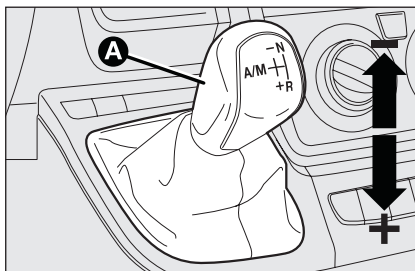
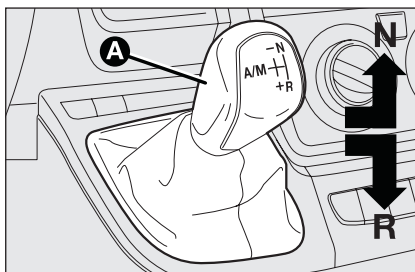
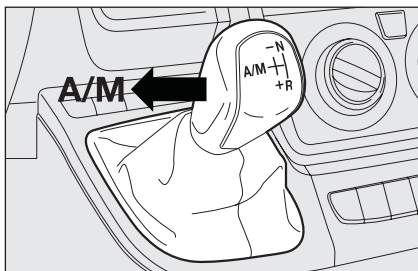

fig. 1
fig. 2
fig. 3
The gearbox consists of a conventional manual transmission equipped with a lever **A-fig. 1**, to which has been added an electronically-controlled hydraulic device that controls the clutch and gear shifts automatically.
- ☐ Push the gear lever towards **+** (shift up) **fig. 1** to engage first gear (if starting from **N** or **R** simply move the lever to the central position) or **R fig. 2** to engage reverse.
- ☐ When driving, push the gear lever towards **(+)** **fig. 1** to engage a higher gear or towards **(-)** **fig. 1** to engage a lower gear.
- ☐ Push the gear lever to **A/M** **fig. 3**, to engage automatic mode **+** (higher gear) **fig. 1** to engage the first gear, if starting from **N** or **R** move the lever to central position **R** **fig. 2** to engage reverse.
Control lever **A-fig. 1**, on the central tunnel is a floating multistable lever, i.e. it can take up three stable positions and three unstable positions.
The three stable positions correspond to neutral **N-fig. 2**, reverse **R-fig. 2** and the central position between the unstable positions **(-) and (+) fig. 1**.
The unstable positions, i.e. positions left by the lever as soon as it is released, are upshift request **(+)**, downshift request **(-)** and automatic mode request **(A/M) fig. 3**.
☐ shift the lever to **(+)** position **fig. 1** to engage a higher gear;
☐ shift the lever to **(-)** position **fig. 1** to engage a lower gear.
to engage/release automatic mode (**AUTO**) press the lever to **A/M** position **fig. 3**; activation is indicated by the message **AUTO fig. 5** and the gear engaged appearing on the reconfigurable multifunction display.
- ☐ with the lever already in central position, move the lever toward + (higher gear) **fig. 1**;
- ☐ with the lever in (**N**) or (**R**) **fig. 2** move the lever to central position and then towards + (higher gear) **fig. 1**;
- ☐ with the lever already in central position, move the lever twice toward + (higher gear) **fig. 1**;
- ☐ Shift the lever to (**R**) **fig. 2**;